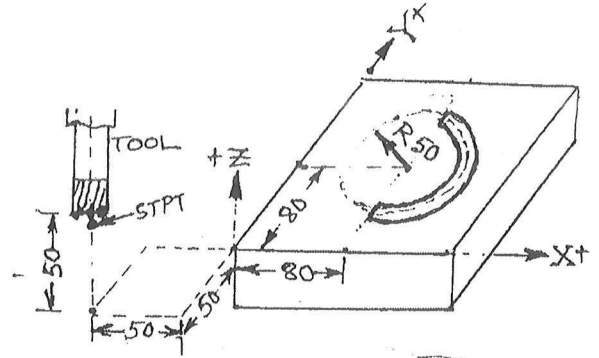

Fig. 2
10. Write a manual part program to machine a semicircular slot as shown in fig. 2 in a CNC milling machine using an end mill cutter. 10